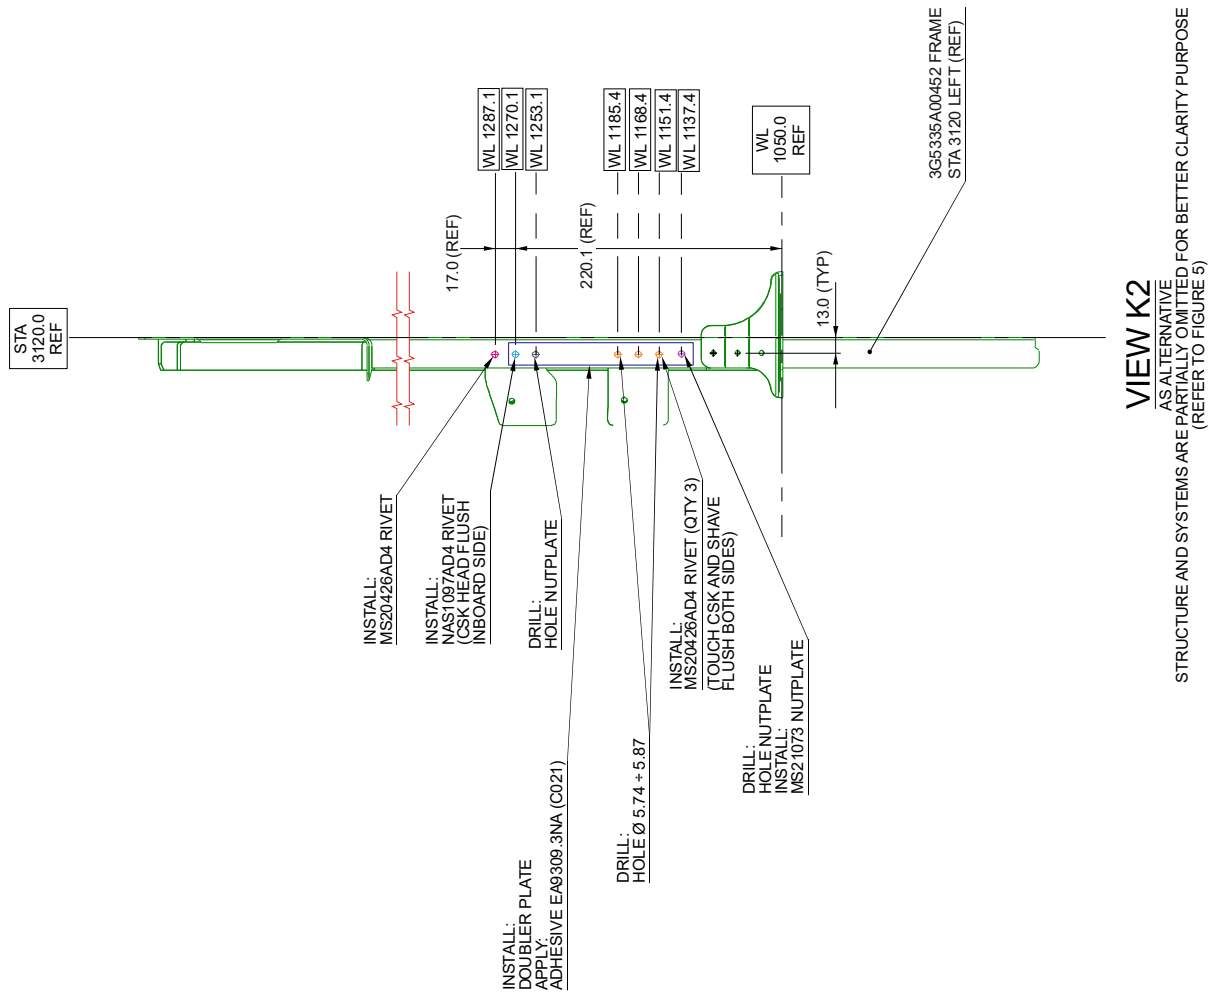

Figure 10
- 4.16 With reference to Figure 10, install the rivet P/N MS20470AD4 (WL 1287.1) on the frame STA 3120 left P/N 3G5335A00452 in order to plug the existing hole in the frame.
- 4.17 With reference to Figure 10, install the rivet P/N NAS1097AD4 (WL 1270.1) on the frame STA 3120 left P/N 3G5335A00452 in order to plug the existing hole in the frame.
- 4.18 With reference to Figure 10, install n°3 rivets P/N MS20426AD4 (WL 1151.4, WL 1168.4 and WL 1185.4) on the frame STA 3120 left P/N 3G5335A00452 in order to plug the existing holes in the frame. Touch countersink and shave flush both sides.
- 4.19 With reference to Figure 10, fabricate the doubler plate (301 stainless steel,
- 4.20 With reference to Figure 10, drill n°2 nut-plate holes thru doubler plate in the previously countermarked positions.
- 4.21 With reference to Figure 10, temporarily locate the support LH P/N 3G5318A70751 on the frame STA 3120 left P/N 3G5335A00452 and on doubler plate and countermark n°2 hole-positions on the frame and on the doubler plate in accordance with the dimensions shown and the existing hole (WL 1253.1).
- 4.22 With reference to Figure 10, drill n°2 holes $\varnothing 5.74 \pm 5.87$ thru the frame STA 3120 left P/N 3G5335A00452 and the doubler plate in the previously countermarked positions.
- 4.23 With reference to Figure 10, install the doubler plate on the frame STA 3120 left P/N 3G5335A00452 by means of adhesive EA9309.3NA (C021).
- 4.24 With reference to Figure 10, install the nut-plate P/N MS21073 on the doubler plate.